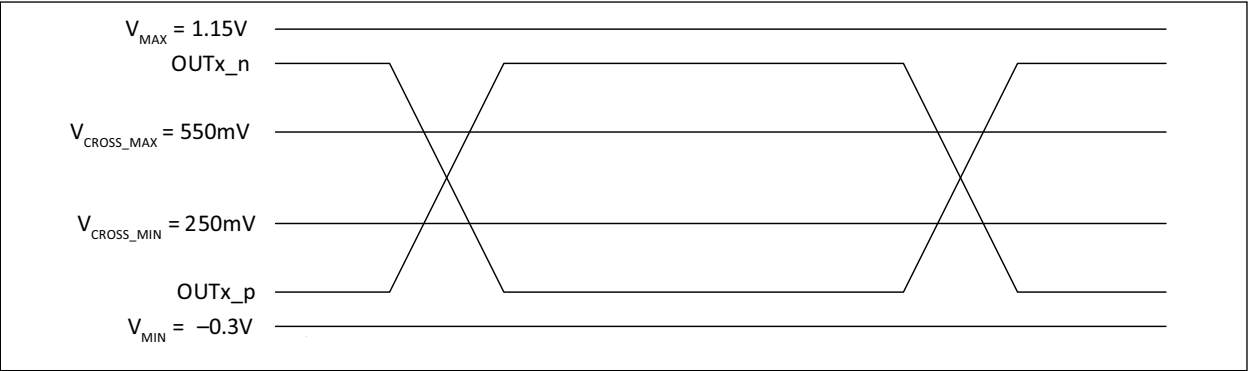

FIGURE 1-1: Single-Ended Measurement Points for Absolute Cross Point and Swing.
- 4:** Measured at crossing point where the instantaneous voltage value of the rising edge of OUTx_p equals the falling edge of OUTx_n. See Figure 1-1.
- 5:** Refers to the total variation from the lowest crossing point to the highest, regardless of which edge is crossing. Refers to all crossing points for this measurement. See Figure 1-1.
- 8:** Defined as the maximum instantaneous voltage including overshoot. See Figure 1-1.
- 9:** Defined as the minimum instantaneous voltage including undershoot. See Figure 1-1.